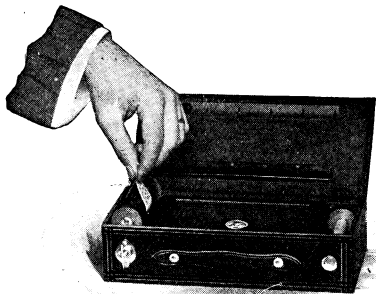

FIG. 3—Removing Roll
6. Pull out spool pin and winding key, and lift out roll of film as shown in Fig. 3.